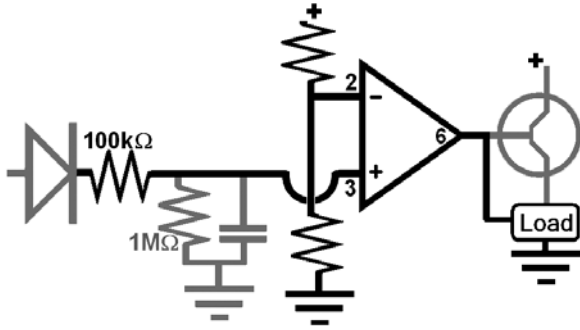

Figure L63-8
3. Figure L63-8 is strictly a digital system. Its inputs can be physical, light, or sound. It will give a Hi output depending on the length and strength of the input signal. Also, this basic voltage comparator is a "voltage follower." This term refers to the fact that the output voltage state (Hi or Lo) matches that of the input. The input signal must last long enough and be strong enough to raise the voltage in the capacitor above half of V_+ before the 1 M Ω resistor drains it. Vary the timing by changing the value of the capacitor. You can use the same single transistor amplifier from way back in Unit 2. Don't use the single transistor's pre-amp setup.